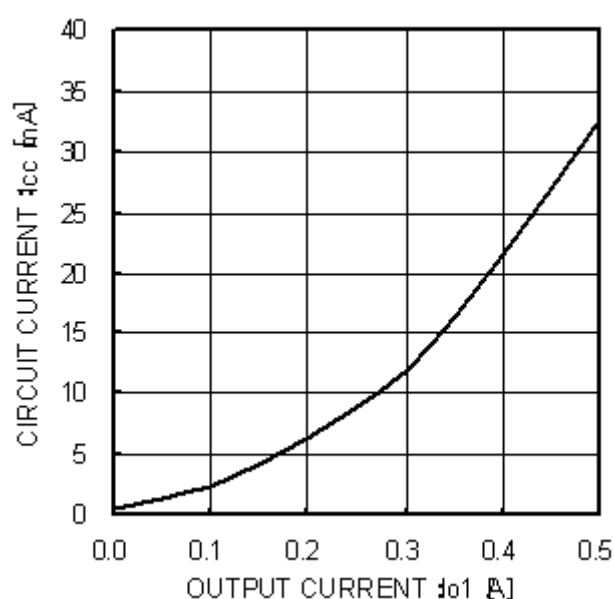

Fig.16
$$P_{C3} = V_{CC} \times I_{CC} = 5 \times 0.0085 = 0.0425 (W) \text{ (See Fig.16 and 17)}$$